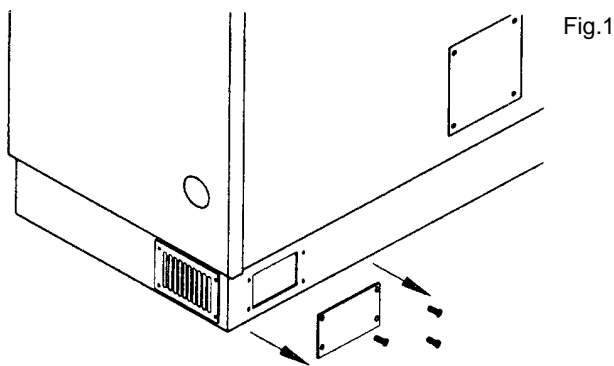

Fig.1
- (a) Remove the cover plate from the Air inlet back panel by removing the fixing screws. (fig. 1).